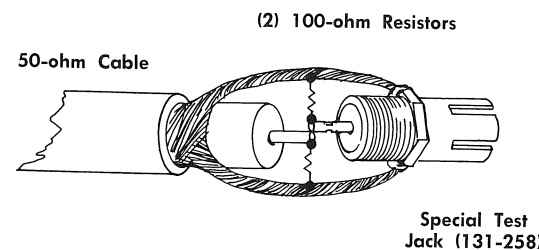

Fig. 2-3. Special 50-ohm Termination for P6038 Probe. Make leads as short as possible.
**Terminated 50-ohm System.** Fig. 2-3 shows a special adapter that can be constructed for use with the P6038 Probe to look at a terminated 50-ohm system. It should be used with the Noise-Risetime switch at LOW NOISE to keep the input circuit overshoot (ringing) to a minimum in the display. This special adapter is recommended over a BNC in-line 50-ohm termination with the BNC-to-P6038 Adapter which places extra capacitance at the probe tip. The VP-2, however, is superior to this special adapter.